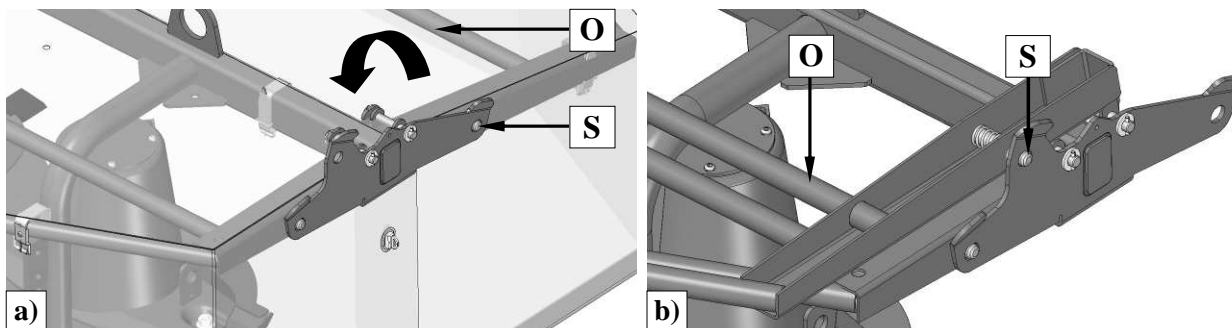

Fig. 11. Manner of setting front guard for transport
Prior to shifting the mower to transport position lift up mower's front guard (O) and secure it with pin (S) (**Fig. 11**) found on the guard's right side. The guard, if not lifted up and improperly protected, may cause serious damages to mower's guard or tractor's elements, e.g. rear lights.